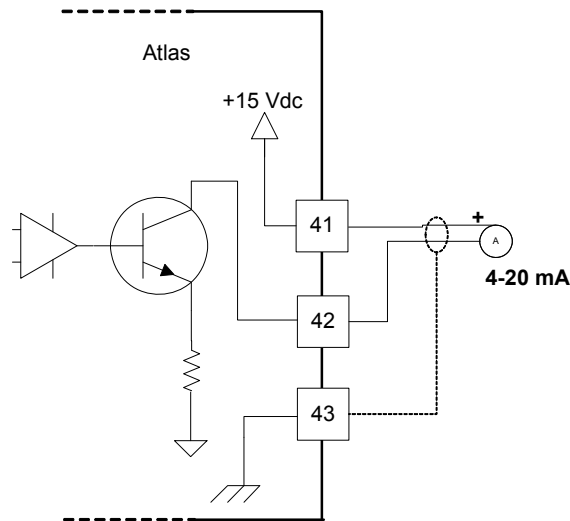

Figure 5-8. Wiring Example–Analog Output Interface to the SmartCore Board
- Refer to Figure 5-8 for analog output wiring.